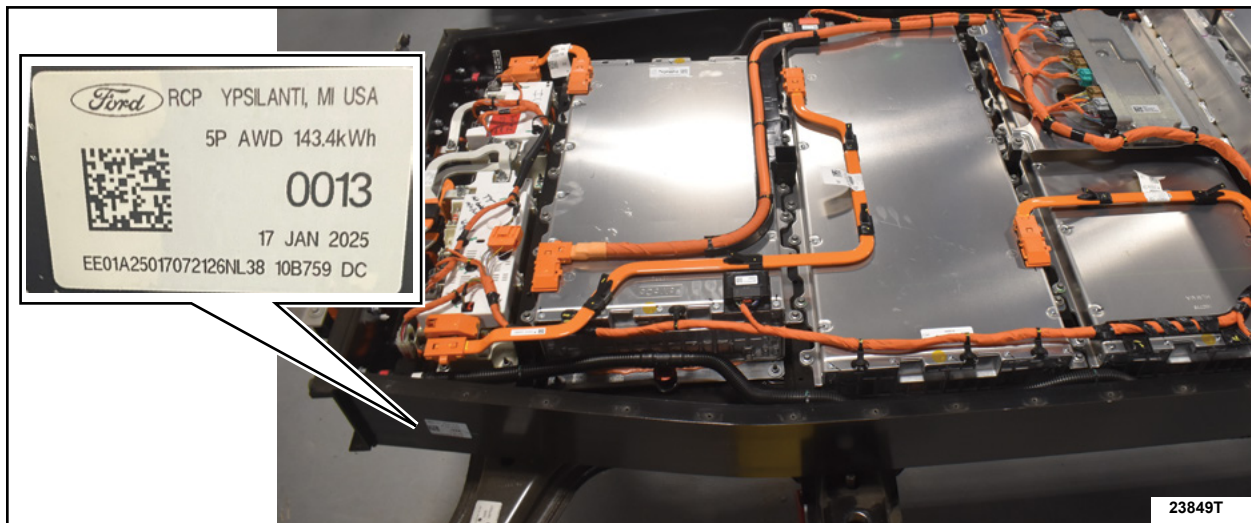

FIGURE 14
1. If this vehicle has been previously inspected and failed, refer to recorded bus bar torque data on the RO and/or Figure 14 and continue to Step 30. If this vehicle has not yet been inspected, continue to Step 2.
30. Take a photo of the HV battery serial number. See Figure 14.